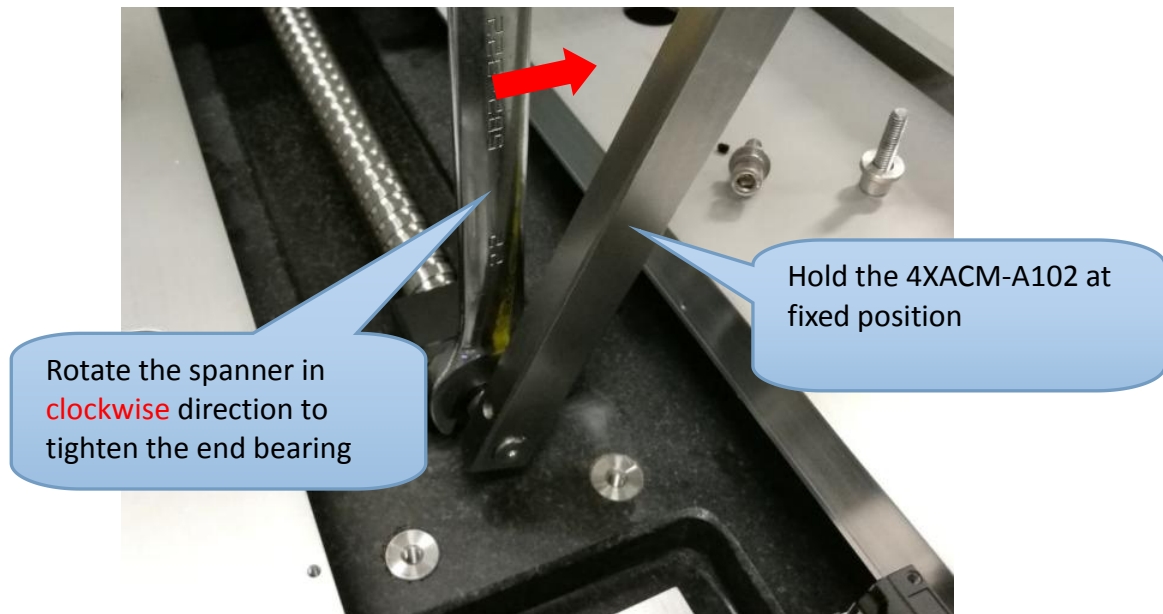

Figure 34 Lock nut fastening
36. Use 4XACM-A102 and Size 22 Spanner to tighten the lock nut as below Figure 34.